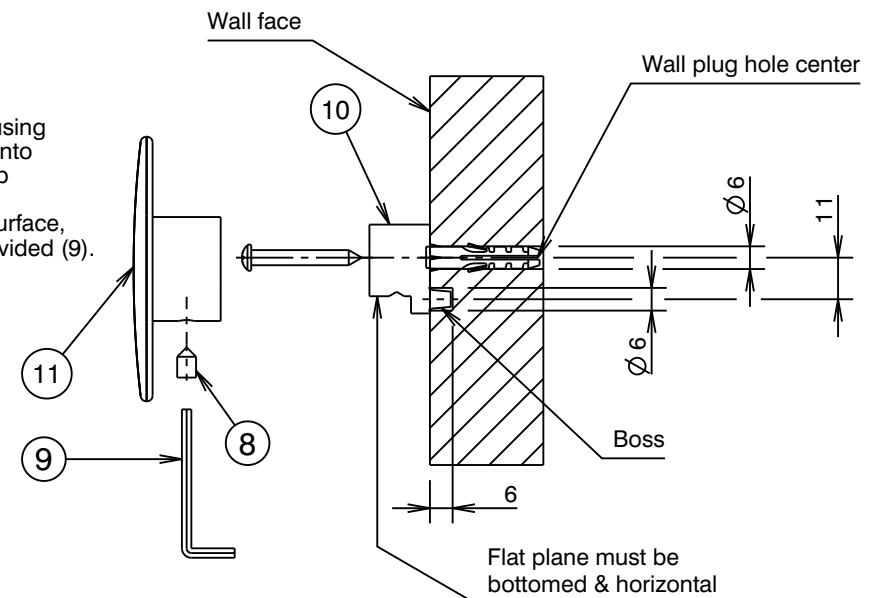

Fig. 2
- * Wall anchor (1) is only suitable for use in cavity walls with a tiled surface. If installing into a plasterboard cavity wall (untiled) it is recommended that the accessory be attached to the wall in line with a stud or noggin using suitable screws.
- * For cavity wall applications, the total wall thickness must be 8-16mm when using the supplied wall anchors (1).
- * Ensure hole centres are vertical before drilling. Centre of mounting block hole to centre of boss hole is 11mm (Fig. 2)
- 2) Drill a hole 6mm diameter, 6mm deep for boss and 11mm apart vertically as shown in Fig. 2.
- 3) Insert rounded end of the wall plug (2) into the top drilled hole and push in until flush with the wall surface.
- 4) Fit the screw (4) through hole in mounting block (10) before inserting into the wall plug (2). Ensure orientation of mounting block (10) is vertical as pictured in Fig.2.
- 5) Check alignment of mounting block before tightening screws (4).
- 3) Flatten barbs on head flange of the wall anchor (1). Insert the wall anchor (1) into the top drilled hole until the head flange is against the wall surface.
- 4) Fit the wall anchor M4 screw (5) with a washer (6) through hole in mounting block (10) before screwing it into installed wall anchor (1). Ensure orientation of fixing plate (10) is as pictured in Fig. 2.
- 5) Check alignment of mounting block before tightening screws (5).
- 1) Determine a suitable position to attach the mounting block (10) so that it can be fixed to a stud or noggin in the wall.
- 2) Ensure correct orientation of the mounting block (10) is vertical as shown in Fig. 2. Fit a suitable screw (4) through the hole in mounting block (10) and screw directly into stud or noggin.